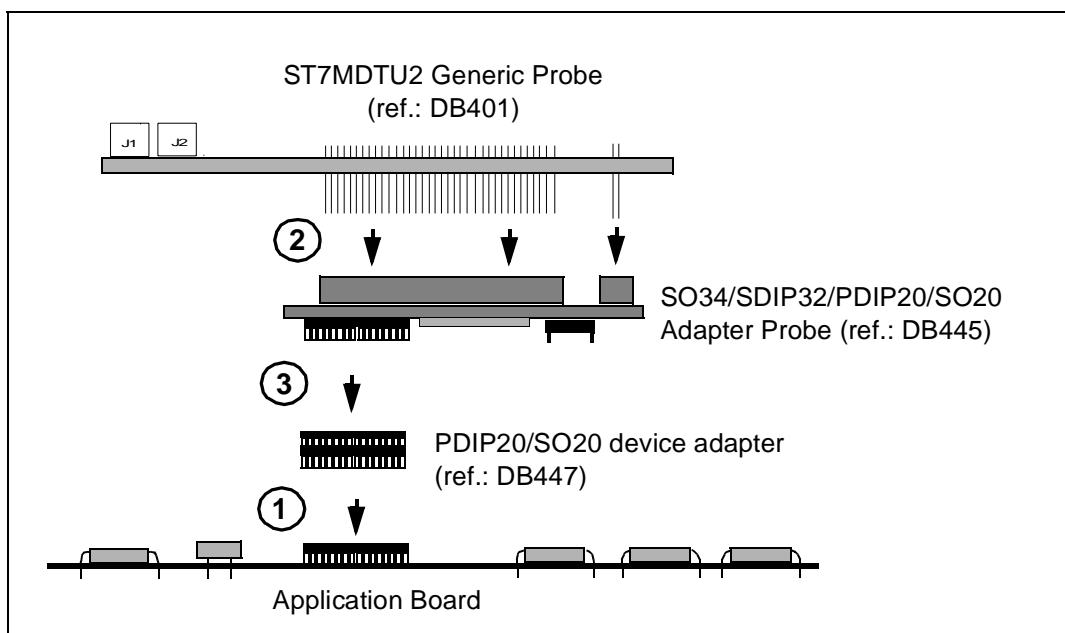

Figure 16: PDIP20 MCU package connections
E) If you are using the PDIP20 MCU package, follow these steps (refer to *Figure 16*):